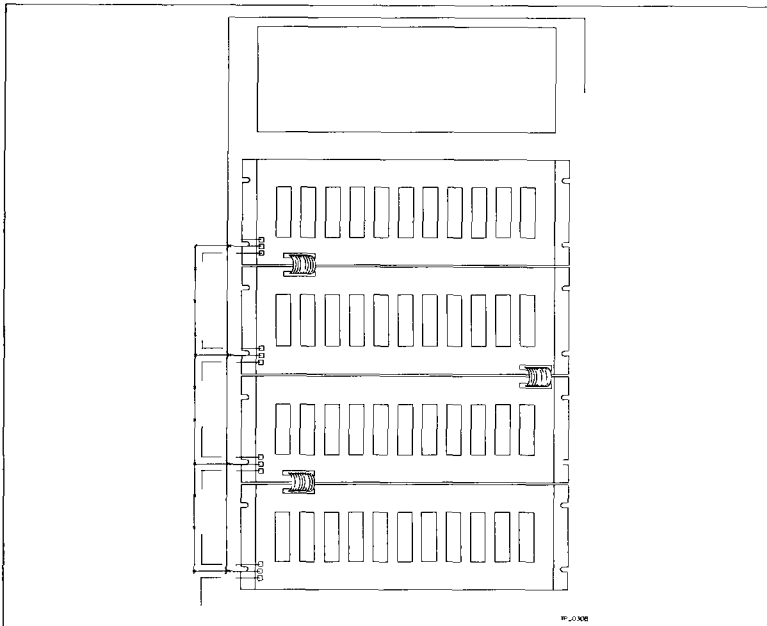

Figure 3 9 Connecting Cables to Multiple Module Mounting Units
- 1 Attach the cables as shown in Figure 3 9.